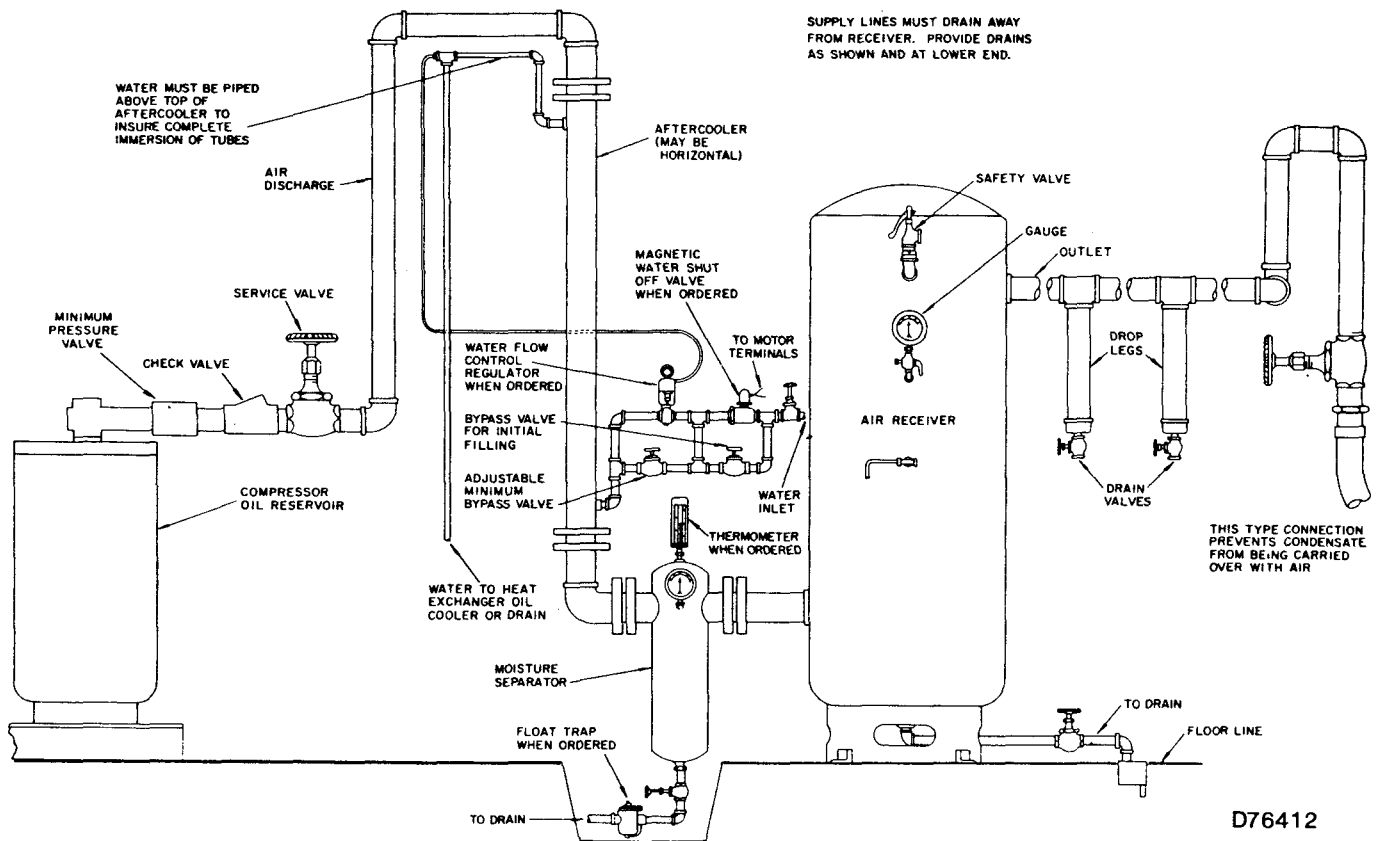

FIGURE 4-2. – AUXILIARY ACCESSORIES
**AUXILIARY AIR RECEIVER** – An auxiliary air receiver is not required if the piping system is large and provides sufficient storage capacity to prevent rapid cycling. When used, an air receiver should be of adequate size, provided with a relief valve of proper setting, a pressure gauge and a means of draining condensate. Figure 4-2 shows a typical air receiver and auxiliary accessories.